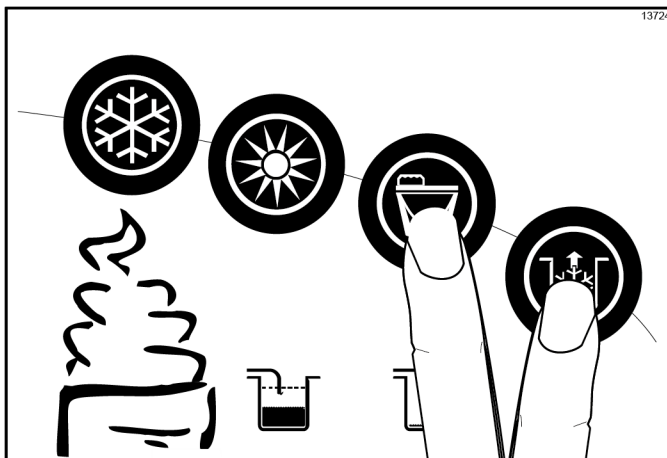

Figure 6-56
3. When the flow of product stops, press the Wash and Pump keys  , canceling the Wash and Pump modes. Close the draw valve. Properly dispose of the mix. (See Figure 6-56.)